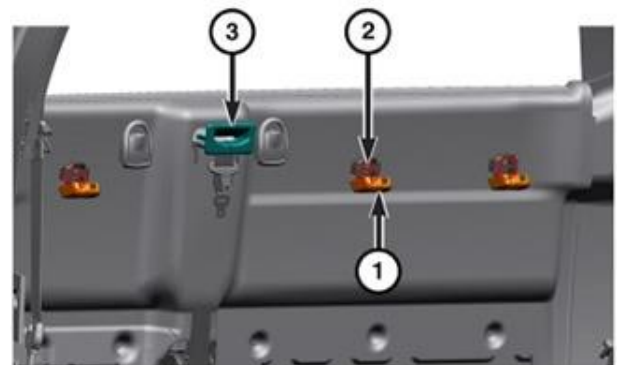

Figure 8 – Rear Cab Back Trim Panel
7. Using a trim stick or equivalent, release tabs and drop down the three hook covers (Figure 8).
8. Remove the three screws and remove the three hooks from the rear cab trim panel (Figure 8).
9. Using a trim stick or equivalent, release the seat belt trim ring from the back panel trim and slide the seat belt through the slit on bottom of the trim ring (Figure 8).
19. Slide the seat belt through the slit on bottom of the trim ring then install the seat belt trim ring to the back panel trim (Figure 8).
20. Install the three hooks to the rear cab trim panel and tighten the screws securely then close the hook covers (Figure 8).